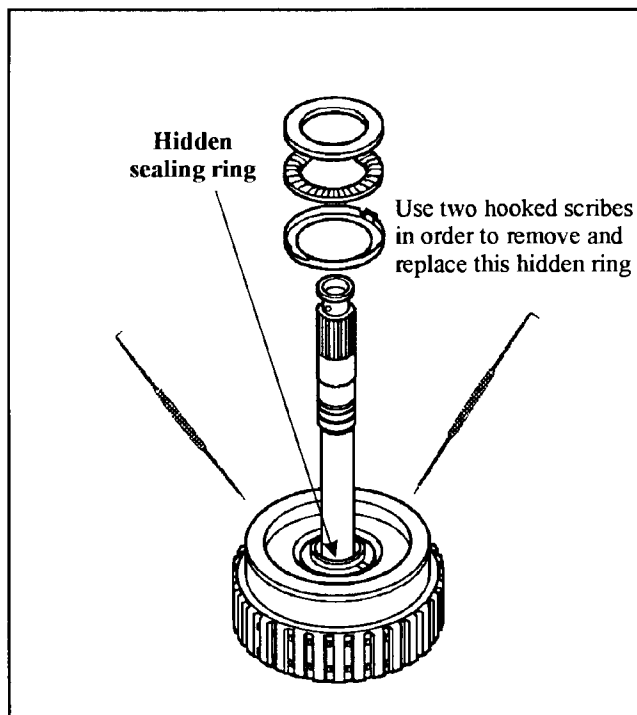

Figure 129
3. Install the two cushion rings on top of the piston as shown in Figure 129.
18. Install the sealing rings in the drum. Use care when installing the hidden ring, use a pair of scribes to remove and replace the ring (See Figure 129). **Do not attempt to press the shaft out of the drum. It may result in damage to the drum.**